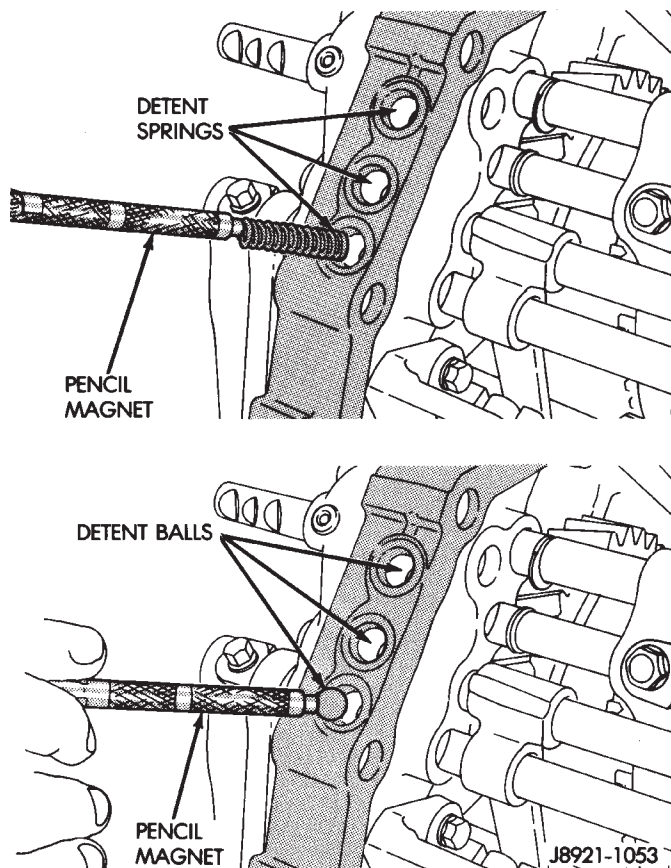

Fig. 23 Removing/Installing Lock Ball And Spring
(2) Remove three lock ball springs and lock balls from intermediate plate with pencil magnet (Fig. 23).